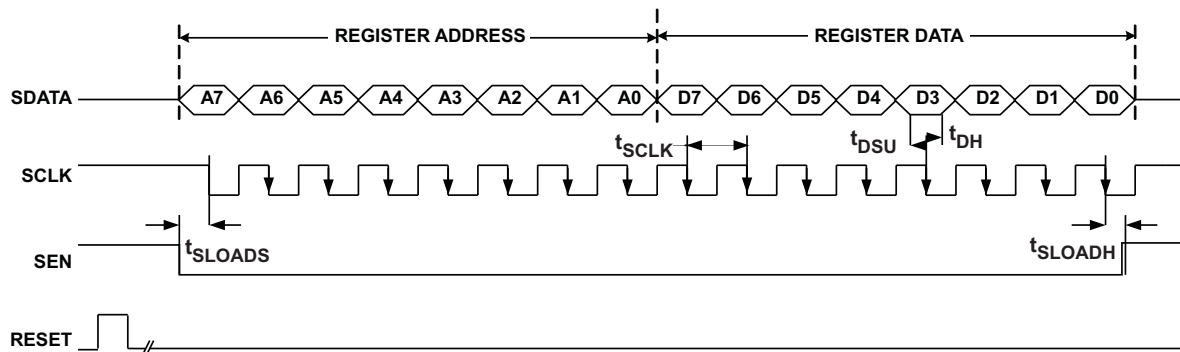

Figure 7. Serial Interface Timing
1. Either through hardware reset by applying a high-going pulse on RESET pin (of width greater than 10 ns) as shown in Figure 7